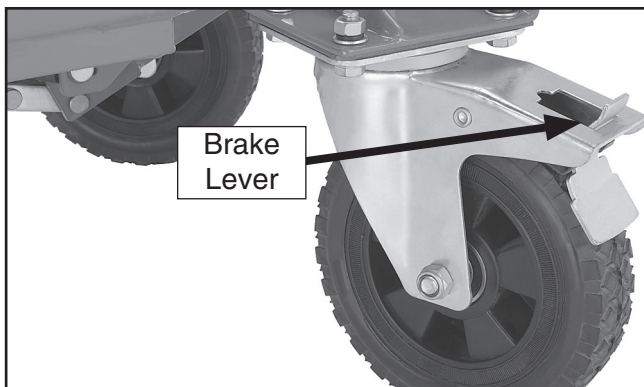

Figure 4. Swivel caster lock lever.
2. Push the brake lever (**Figure 4**) down to lock or forward to unlock the swivel casters.